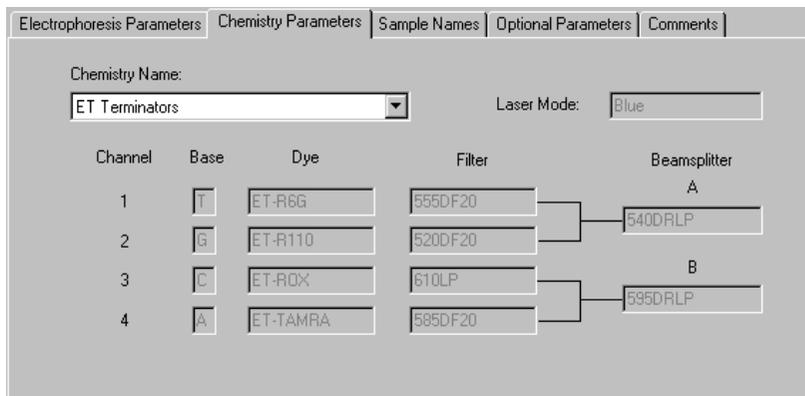

Figure 4-3. The Chemistry Parameters tab with sequencing parameters displayed.
5. Click the **Chemistry Parameters** tab. The Chemistry Parameters tab appears (figure 4-3).